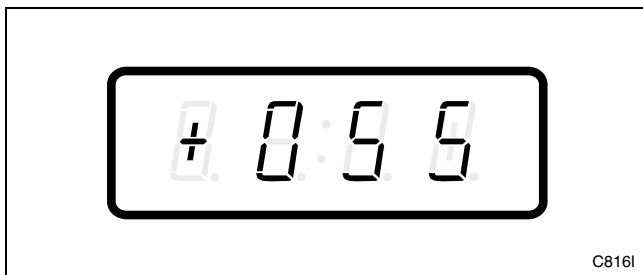

Figure 193
3. Press the LOW TEMP (+) or the NO HEAT (-) keypad to scroll through the programmable options until “+055” appears in the VFD. Refer to *Figure 193*.